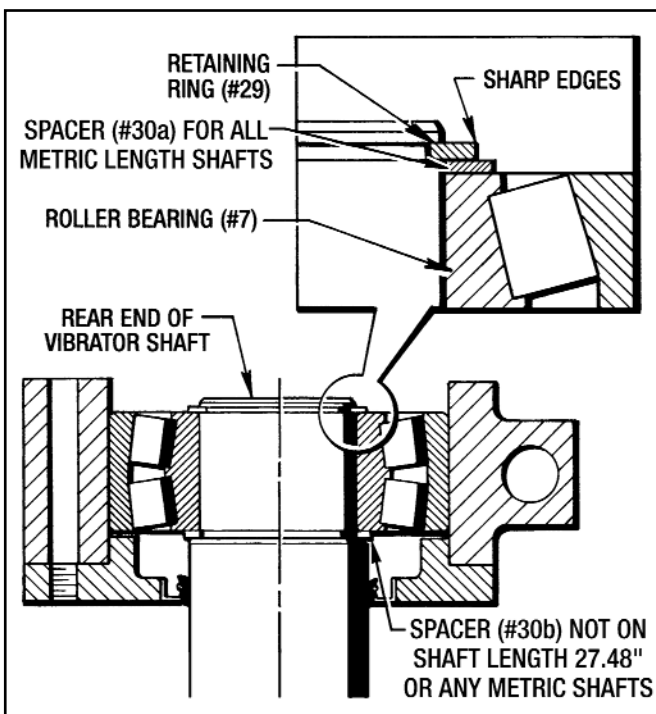

Figure 7.16 - Installing Retaining Ring (#29)
- Install the Retaining Ring (#29) onto the shaft end with the sharp edges away from the bearing as shown in *Figure 7.16*. Be sure that this Retaining Ring (#29) snaps into the groove.
- Attach the End Bearing Closure (#6) with (4) Hex Hd. Screws (#3) and (4) Lockwashers (#4). **Torque to 14 Ft. Lbs.**